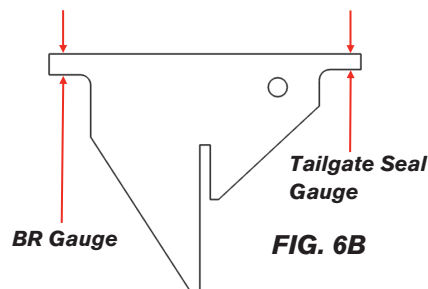

FIG. 6B
- Another way to set the tailgate cap seals is to use the Tailgate Seal Gauge as shown in figure 6B & 6C. You should be able to just slide the Tailgate Seal Gauge in between the Tailgate Cap Seal and the Bottom Cap.